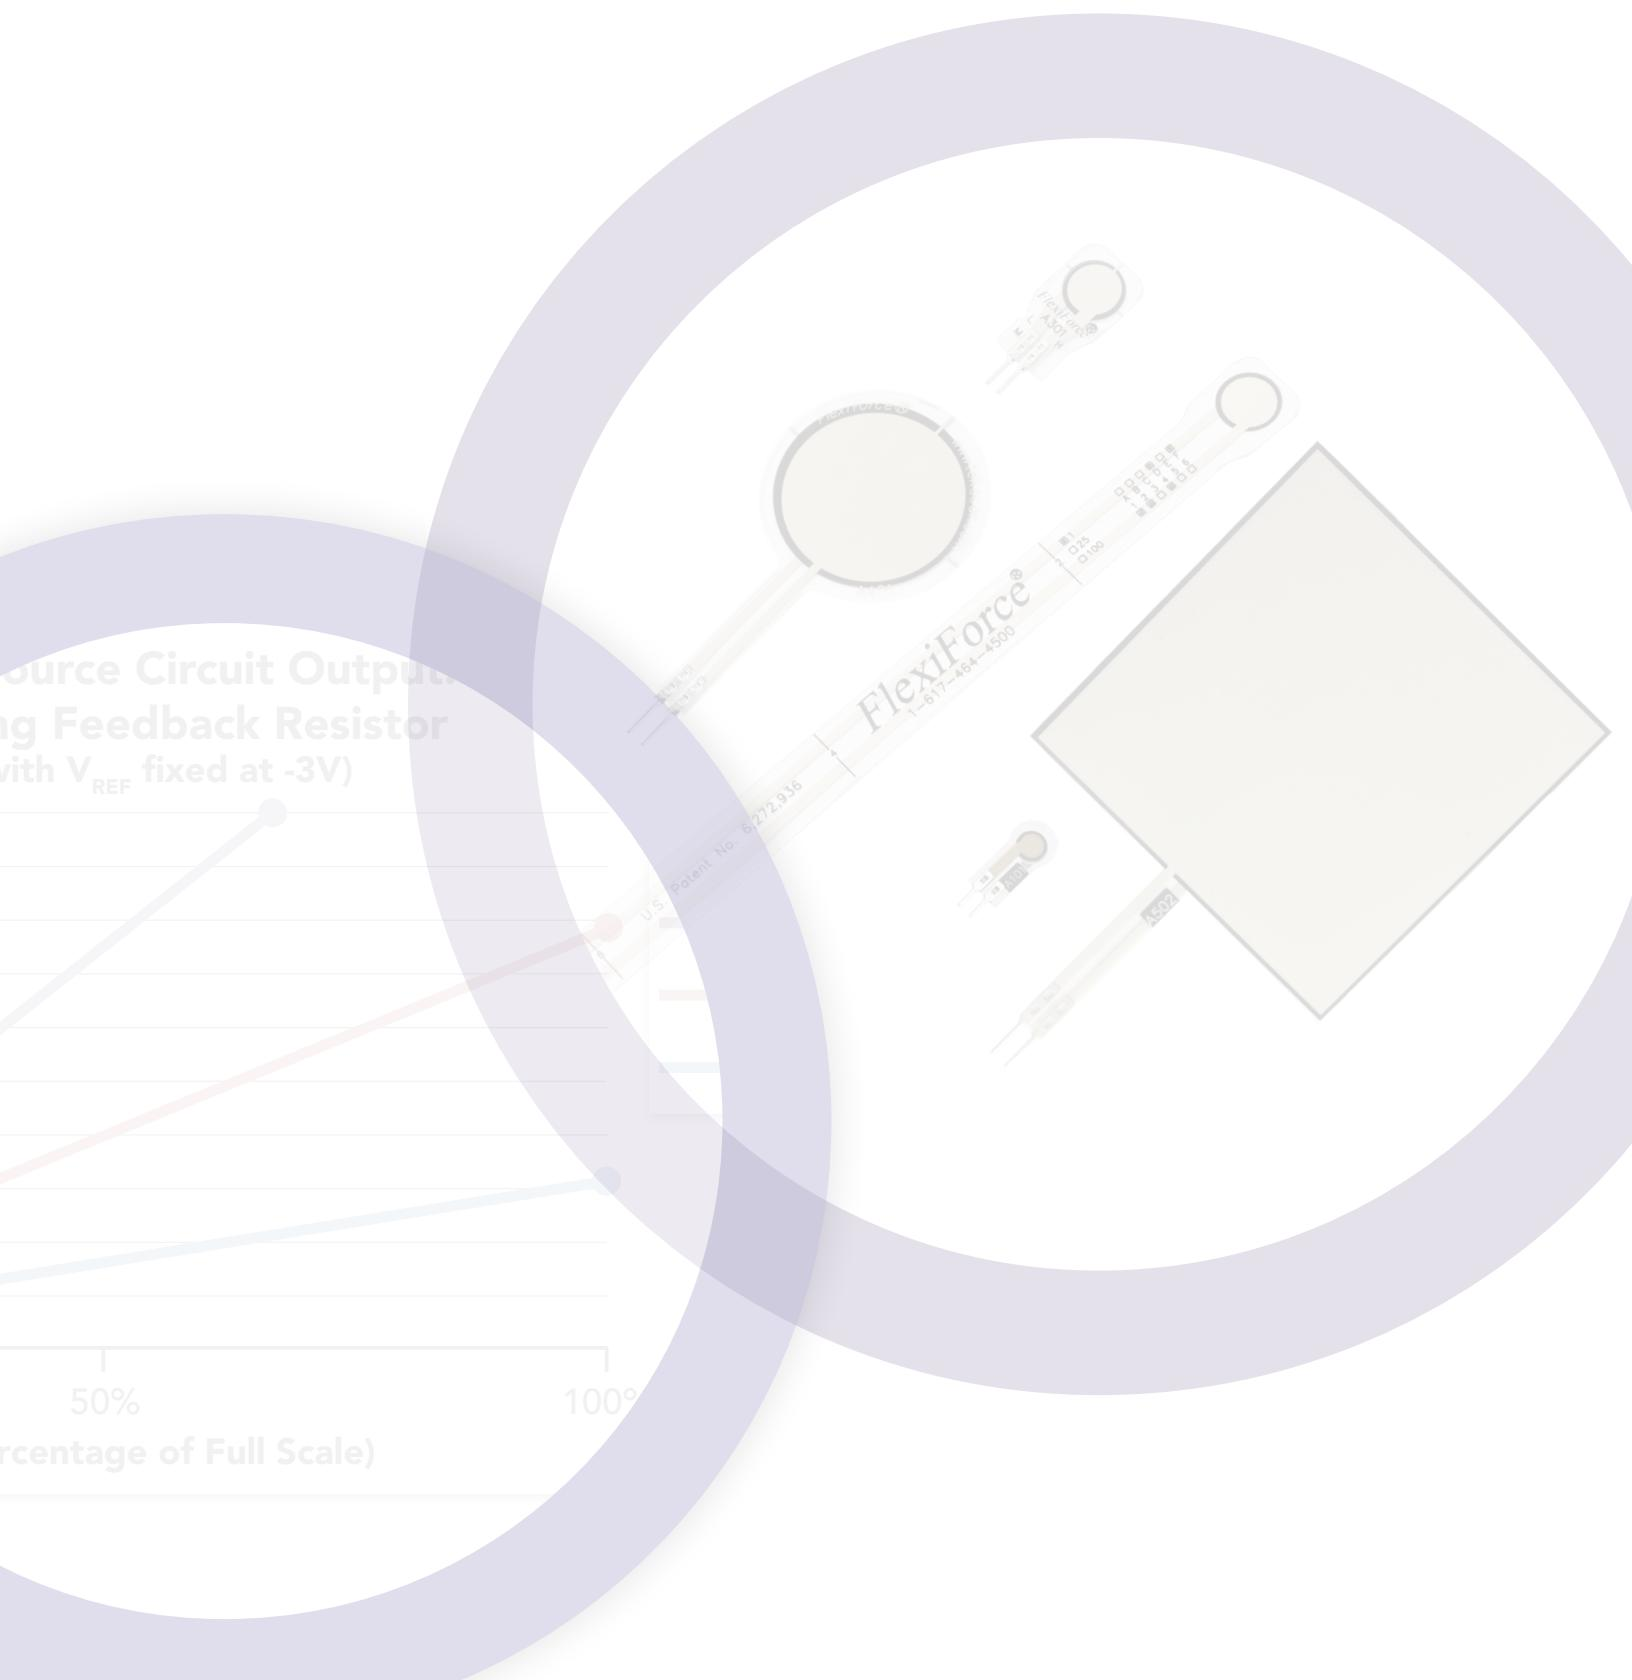

FIGURE 4: RESISTANCE & CONDUCTANCE CURVE
- If the sensor load is not consistent and controlled, you will not obtain a linear output as shown in **Fig. 4 (page 13)**. When loading is not applied to the active area of the sensor, the output of the sensor can be erratic and/or nonlinear. Localized high pressure points on the sensor may result in non-linear output. Manufacturing tolerances can cause stress concentrations with high stress points resulting in non-linear output.